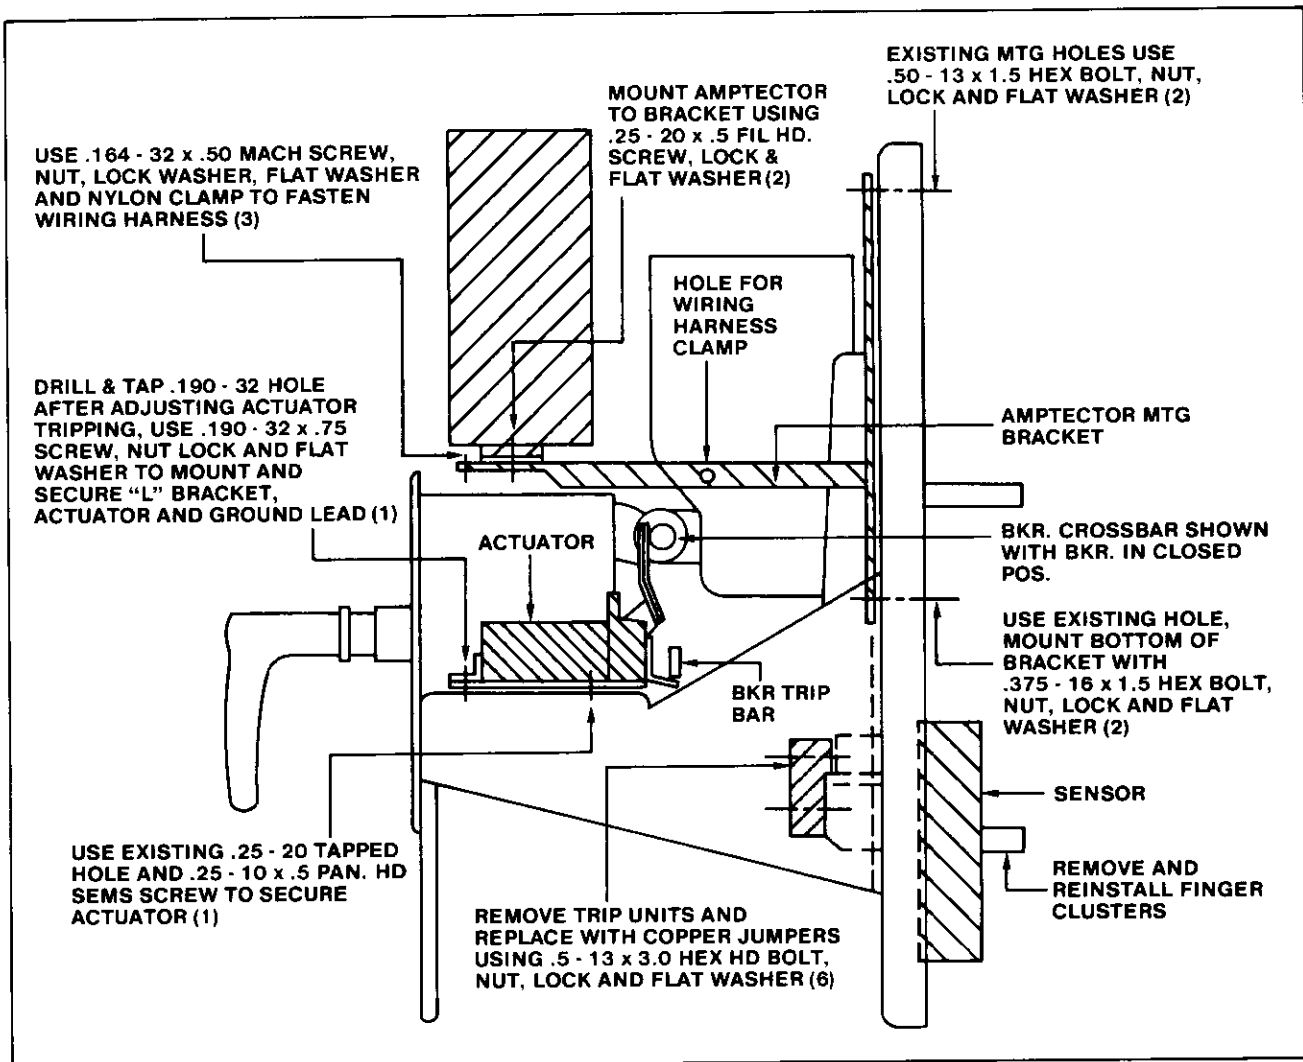

Fig. 19 Right Side View of DB-25
- B. Familiarize yourself with right hand side view of breaker, see Fig. 19.